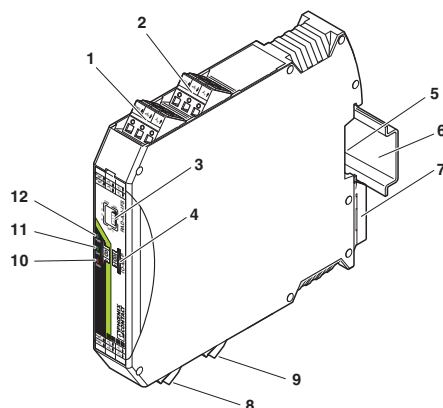

Figure 3-1 RAD-AI4-IFS structure
A supply voltage of 12 V DC, minimum, is available at the PWR₁ connection terminal block for passive sensors (see Figure 3-1, item 1).